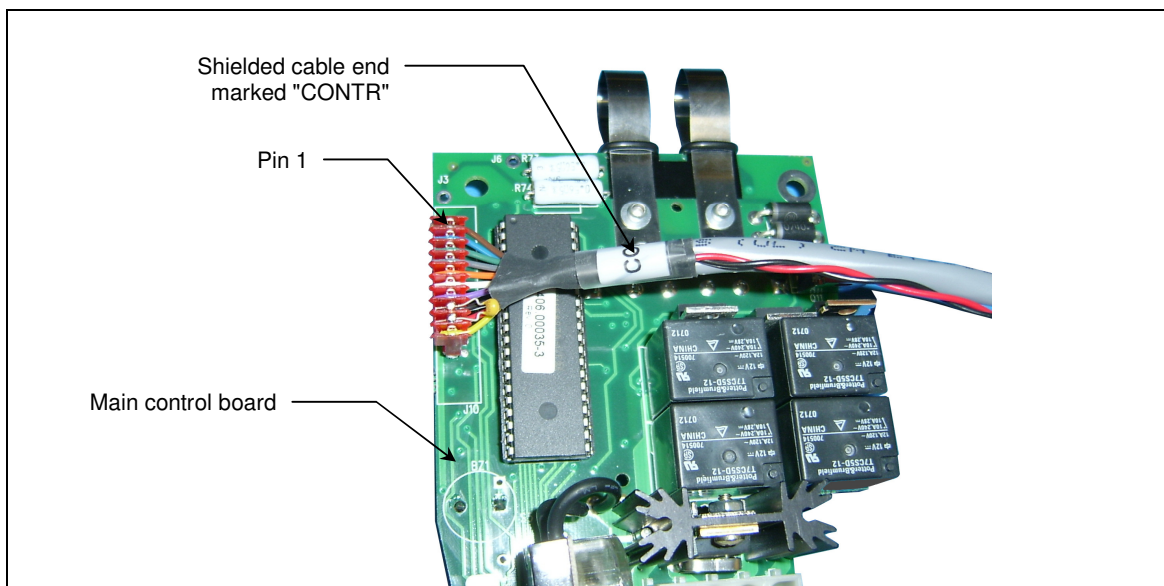

Fig. 3
- 3) Connect the shielded cable end marked “CONTR” to the new control board, as shown in figure 3.